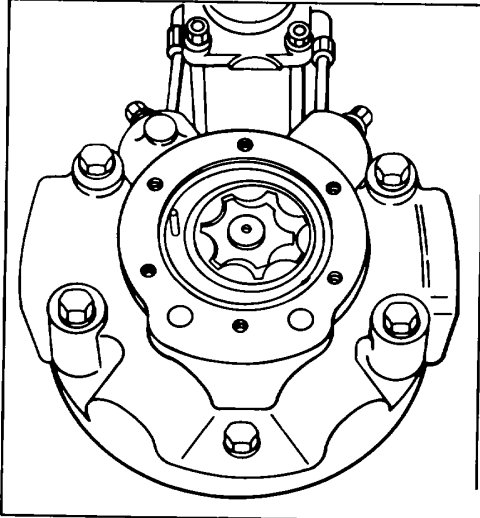

Figure 156.
33. Install the charge pump spacer (48) over the charge pump gears (47) positioning the short end of the roll pin in the lower charge pump valve plate. See Fig. 156.